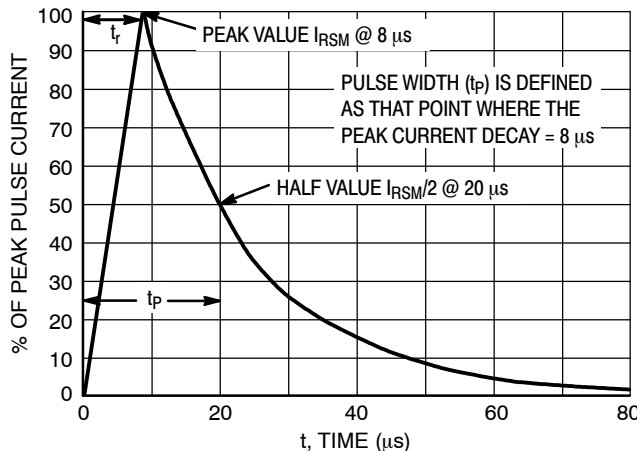

Figure 5. 8 X 20 μs Pulse Waveform
1. Non-repetitive current pulse per Figure 5 (Pin 5 to Pin 2)
- Non-repetitive current pulse per Figure 5 (Pin 5 to Pin 2)
- Non-repetitive current pulse per Figure 5 (Any I/O Pins)
- Surge current waveform per Figure 5.